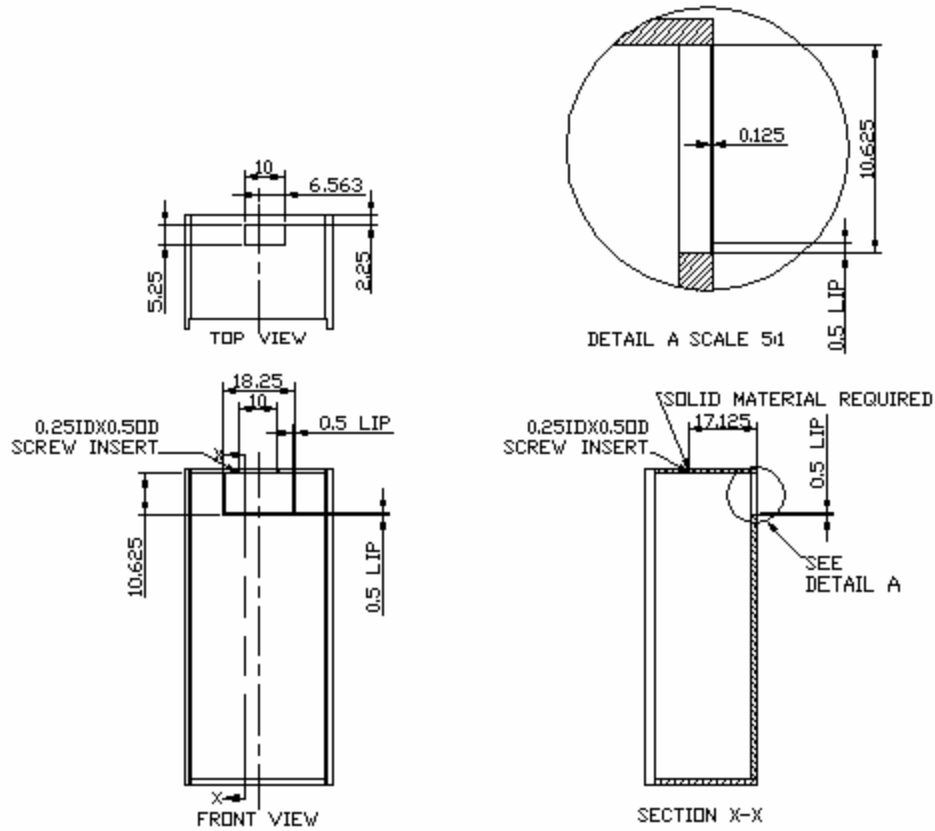

Fig. 2.2 MOUNTING OPENINGS
- Cut a rectangular opening with the ¼" clearance inwards to the width and height of the cooling unit, the opening is positioned from the top and center of the cabinet (see Fig. 2.2).
- If top exhaust, cut a rectangular opening at the top of the cabinet to the length and width of the top exhaust openings (see Fig. 2.2).